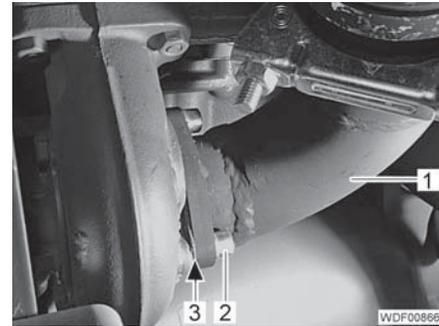

Fig. 56 Flue attachment
- Position the flue (Fig. 56,1) with seal (Fig. 56,3) or with seals and intermediate washer.
- Screw in and tighten the 3 screws (Fig. 56,2).